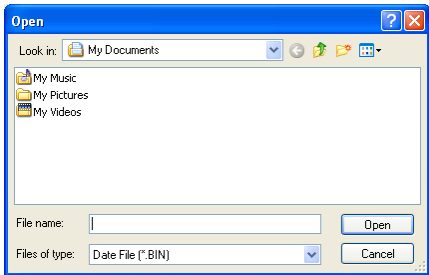

Figure 5-1-1
Startup this software and import data. Click “Import Case Data” in “File” menu, then the following Figure 5-1-1 will appears:
1. Click “Import Case” in “File” menu, then the case information interface will appear as Figure 5-1-1, which can help doctors import the other patient’s data when observing one patient’s waveform.